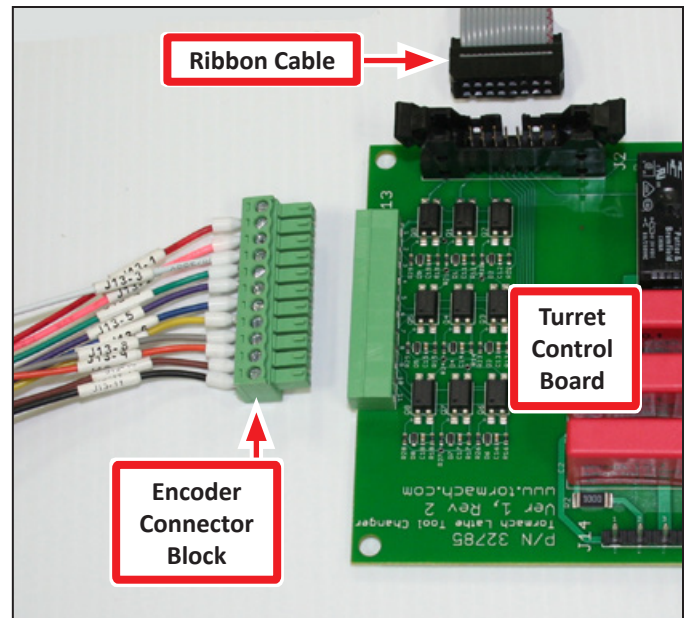

Figure 24
20. Route the Encoder Connector Block to the Turret Control Board, and then plug in (see **Figure 24**).
21. Connect one end of the Ribbon Cable to the Turret Control Board as shown in **Figure 24**.
22. Route the opposite end of the Ribbon Cable through the wire trough and connect to the Lathe Control Board as shown in **Figure 24**.